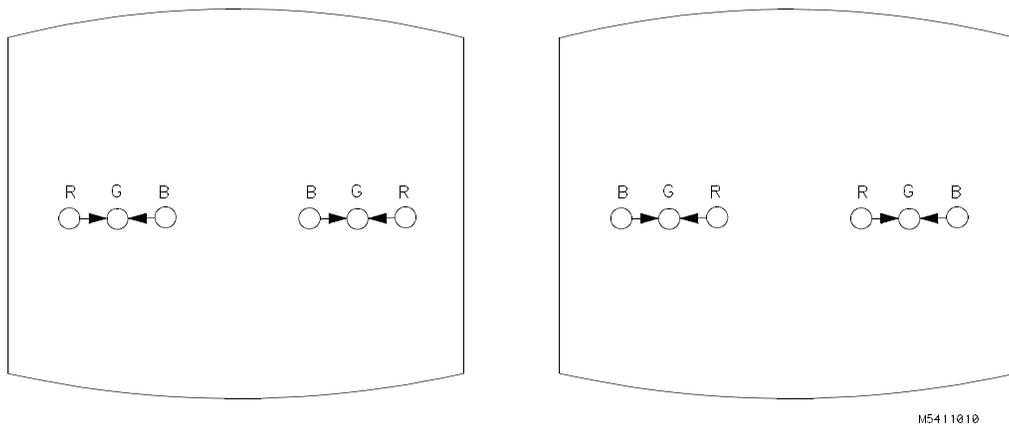

Figure 4-24. H.TILT Adjustment
- Adjust the H.TILT (RV806), located on the bottom PC board, for coincidence of red, green, and blue at the right and left sides of the screen. See figure 4-24.